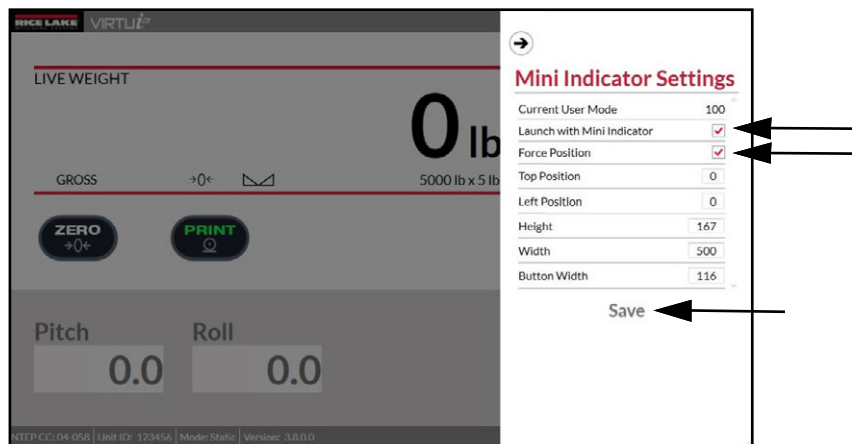

Figure 4-7. Options Menu - Mini-Indicator Settings
To launch the mini indicator enable this setting first by checking the Launch box (Figure 4-7)
Enable the Force Position checkbox (Figure 4-7) to force positional and size constraints for the mini indicator when it is launched. Perform the following steps to find the required settings.
6. Enable the **Force Position** setting in the mini indicator settings options tab (Figure 4-7).